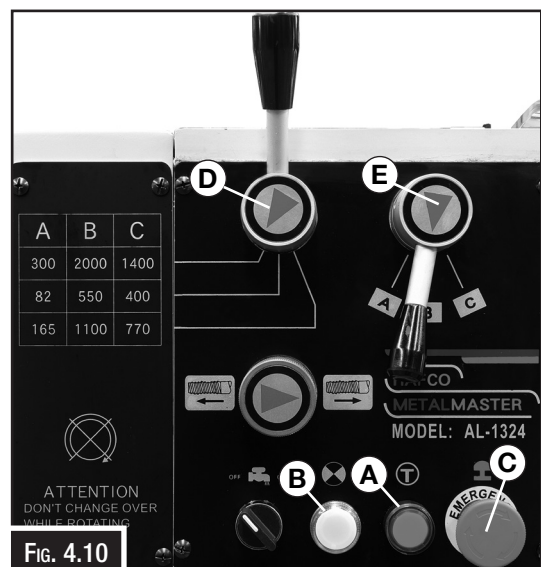

Fig. 4.10
2. Connect machine to power supply. Power lamp (B in Fig. 4.10) should light.
3. Press EMERGENCY STOP button (C in Fig. 4.10) This will help prevent unexpected startup when machine is connected to power.
4. Twist EMERGENCY STOP button (C in Fig. 4.10) clockwise until it pops out - this resets the button and enables the power to control panel and motor.
9. Press EMERGENCY STOP button (C in Fig.4.10) and wait for spindle to come to a complete stop.